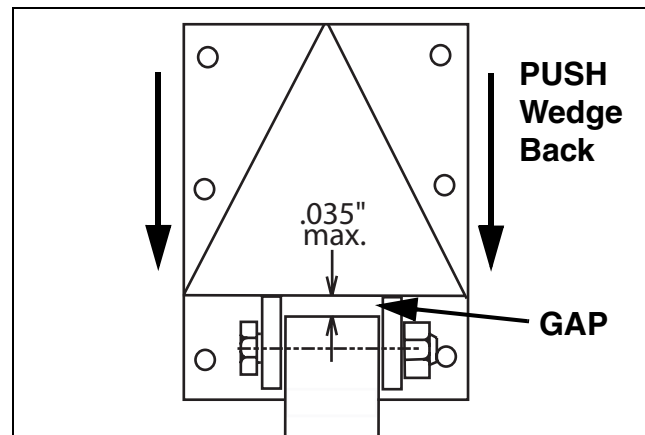

FIGURE 2
8. Using a .035" feeler gage, try to insert the gage between the end of the ram and the back side of the wedge pocket. See Figure 2.